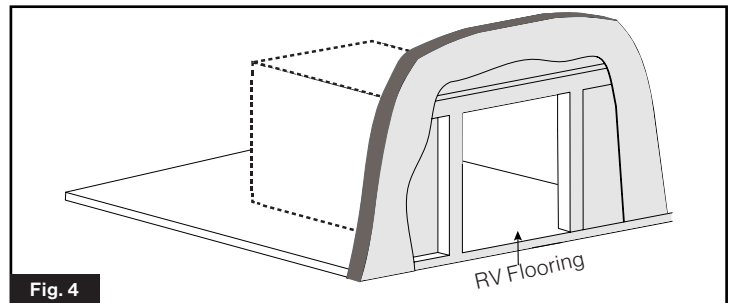

Fig. 4
- Make sure the appliance is supported by a solid floor or platform with adequate weight-bearing capacity. (Fig. 4)